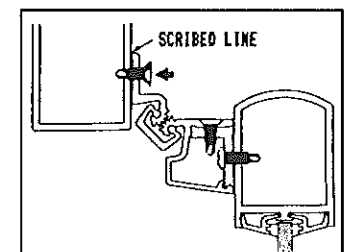

Fig. 6
2. Align the edge of the frame leaf on the scribed line of the frame (Fig. 6).